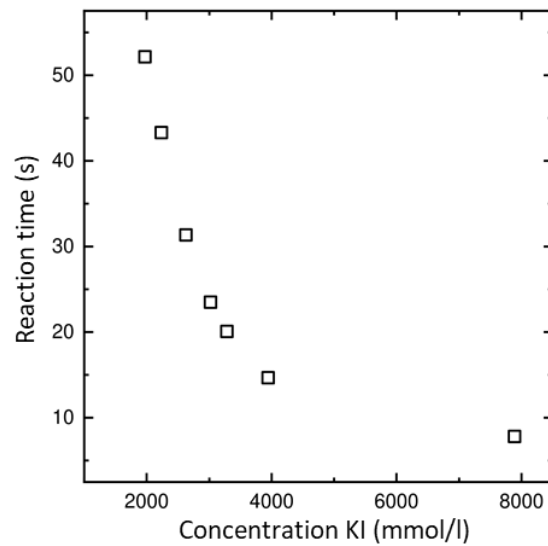

Figure 1: Reaction time over concentration of potassium iodide
- c) Plot the concentration over the reaction rate. Which reaction order can you assume for iron(III) chloride (x), potassium iodide (y) and sodium thiosulfate? Plot your results logarithmically and show the equation for determining the reaction order. Reference graphs for potassium iodide and sodium thiosulfate are given in Figure 1, 2 and 3.